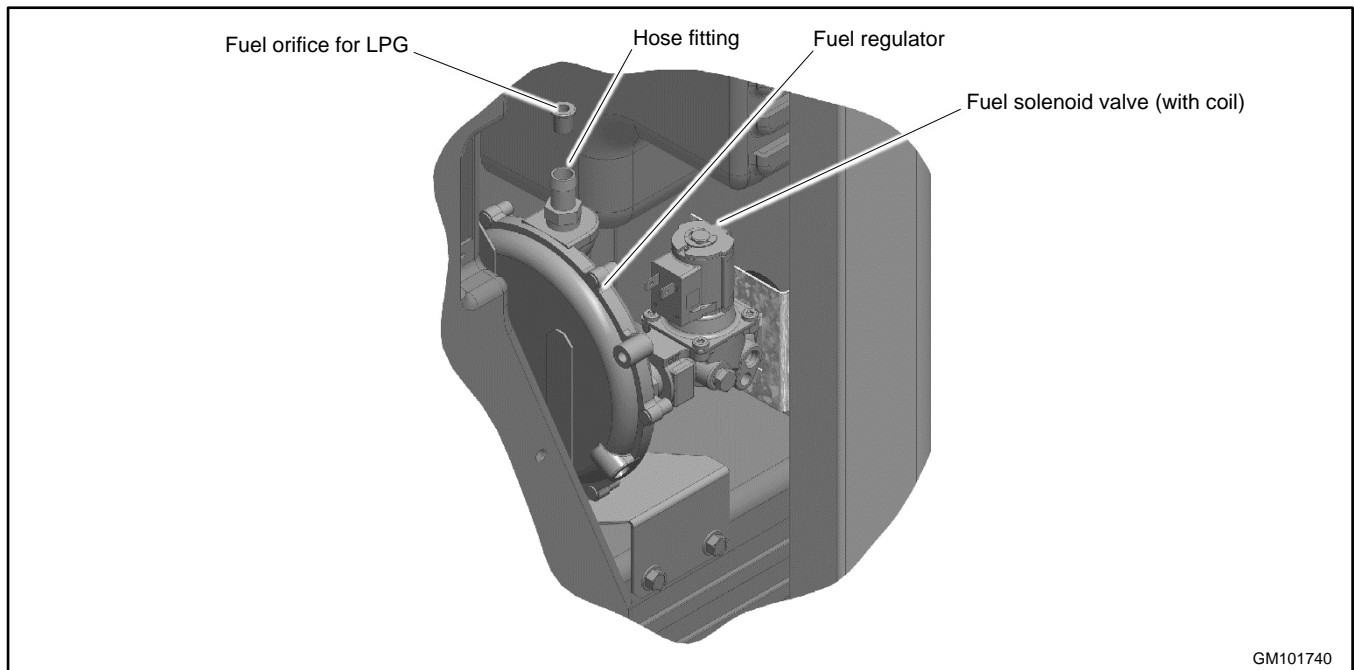

Figure 96 Fuel Regulator and LPG Orifice, 20RCA/RCAL
6. Insert the LPG orifice into the hose fitting. See Figure 96.